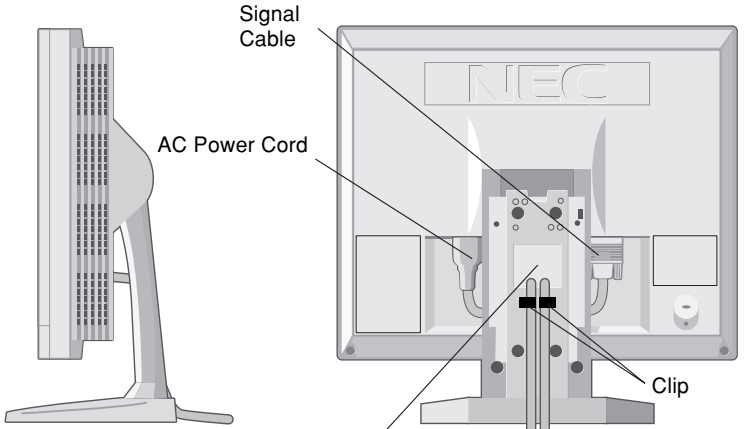

Figure C.1
3. Connect the 15-pin mini D-SUB of the video signal cable to the appropriate connector on the back of the monitor (**Figure C.1**).
4. Connect one end of the power cord to the MultiSync LCD Series monitor and the other end to the power outlet. Place the video signal cable and AC power cord under the clips. (**Figure C.1**).